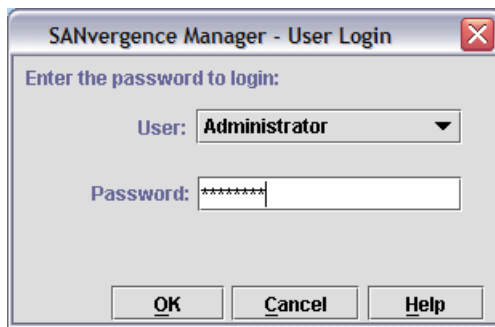

Figure 17-46 SANvergence Manager Login
2. To continue the configuration process, log in to SANvergence Manager. Launch the application and log in as **Administrator**, as shown in Figure 17-46.